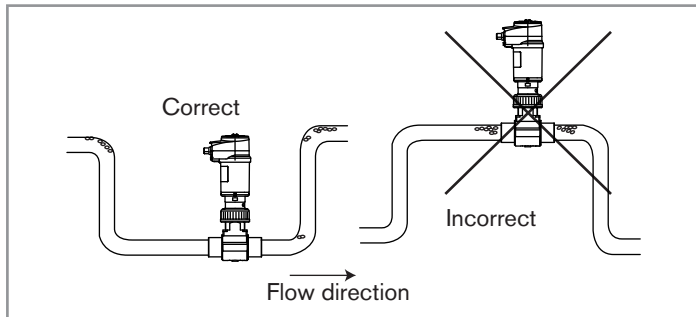

Fig. 4 : Air bubbles in the pipe
- Prevent the formation of air bubbles in the pipe in the section around the product (Fig. 4).